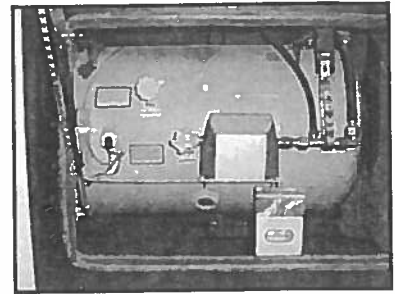

Figure 2-3. Liquid Propane Tank
- Anytime the motor fuel (i.e., diesel fuel, see Figure 2-2) or the LP tank (see Figure 2-3) is to be filled, the motor home engine is to be turned “off,” all pilot lights must be extinguished, and appliances turned “off.”
gas containers (Figure 2-3) are equipped with safety valves that may relieve excess pressure by discharging gas into the atmosphere—any containment of that vented LP gas constitutes an explosive hazard.